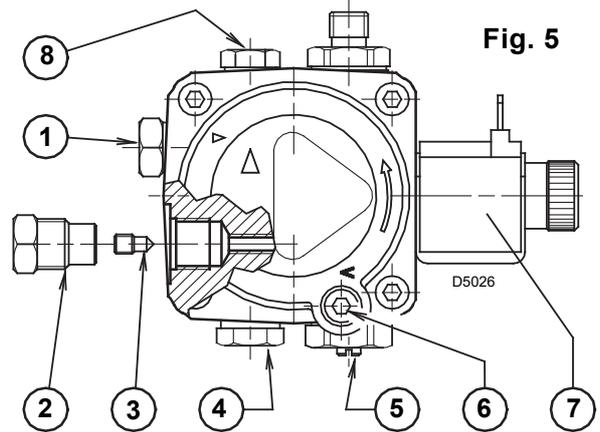
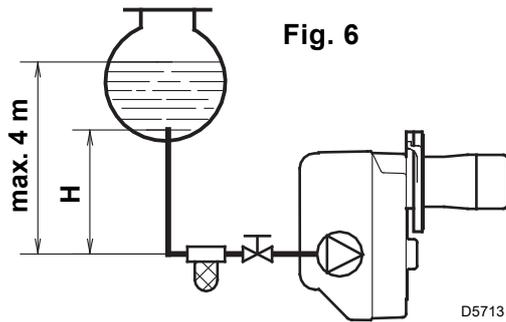

Fig. 5
Fig. 6
■ The pump is designed to allow working with two pipes. In order to obtain one pipe working it is necessary to unscrew the return plug (2), remove the by-pass screw (3) and then screw again the plug (2). (See Fig. 5).
On the system in Fig. 6 it is sufficient to loosen the suction gauge connection (5, Fig. 5) and wait until oil flows out.